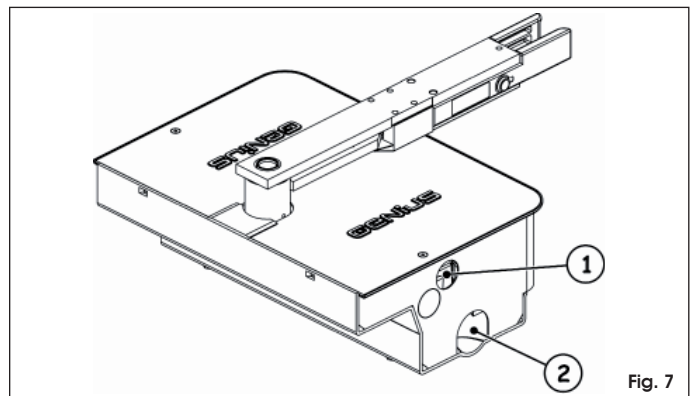

Fig. 7
3. Lay down a PVC tube of diameter 35 mm through which to pass a 4 core electrical cable. The tube must reach from the box the control unit (Fig. 7 rif. ①). Lay a second tube to drain off rain water, from the box to the nearest drain (Fig. 7 rif. ②).